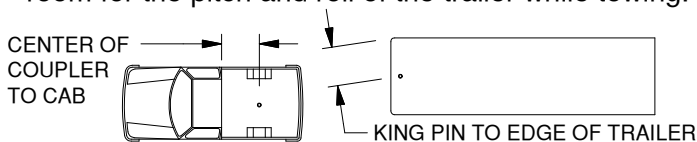

Figure C2: Truck and Trailer
- 3. Evaluate clearance.** Determine if there is clearance between each truck and trailer combination before towing. Measure from the center of the coupler to the cab of the truck and from the king pin or pivot point of the trailer to the furthest forward corner of the trailer, see Figure C2. Compare these measurements to ensure proper clearance when towing. Also, inspect the clearance between the bed sides and the underside of the front of the trailer to ensure there is room for the pitch and roll of the trailer while towing.